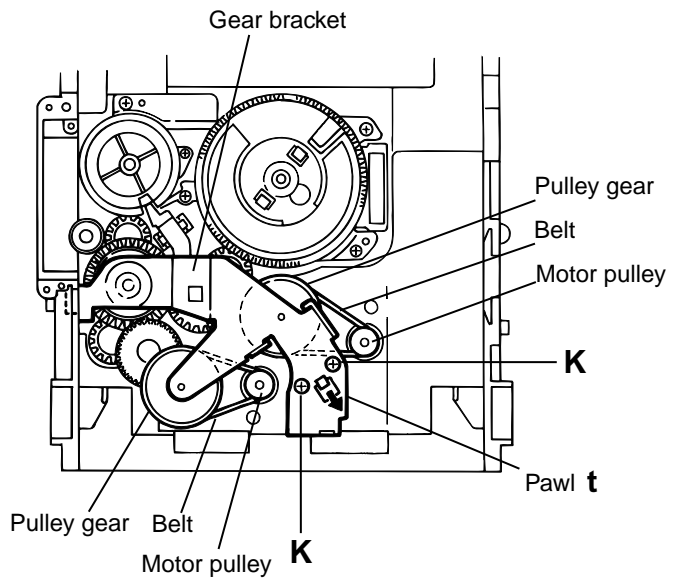

Fig.18
4. While turning the cam gear "q", align the pawl "s" position of the select lever to the notch position(Fig.18) on the cam gear "q".
5. Remove the four screws **J** retaining the cam unit(cam gear "q" and cams R1/R2 assembly)(See Fig.18).
(See Fig.18~21)**